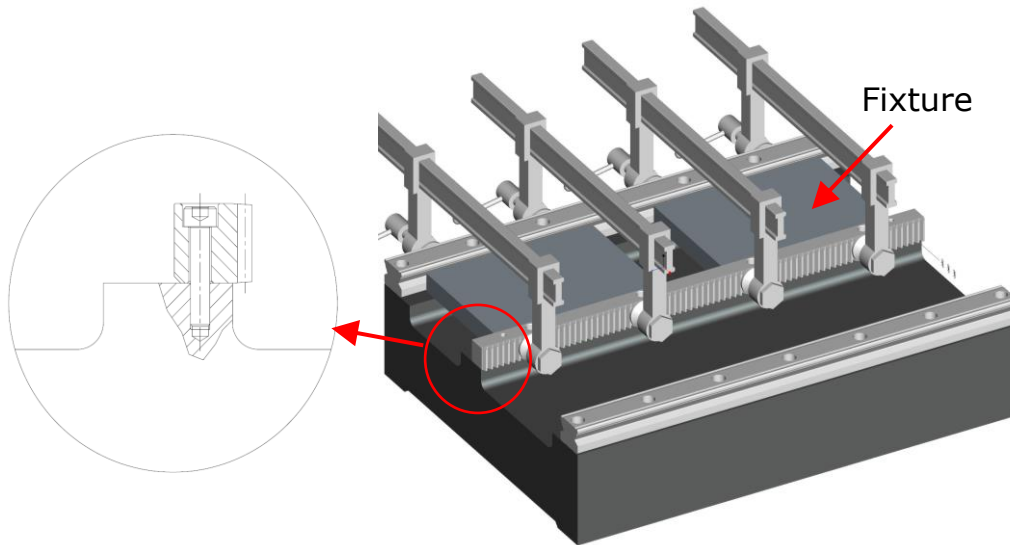

Fig. 2
- 1.13 For an installation as shown in the Fig. 2, or, to apply 2 pinions on the same rack like in Fig. 3, a rack of APEX Quality 5+ is strongly recommended, whereby the positioning pins should be applied.
- 1.14 The positioning pins of the rack serve for a repaid installation after demounting. The pins are not necessary if there is no repeated mounting and demounting. The positioning pins are however needed by installation without alignment surface like shown in the Fig. 2.